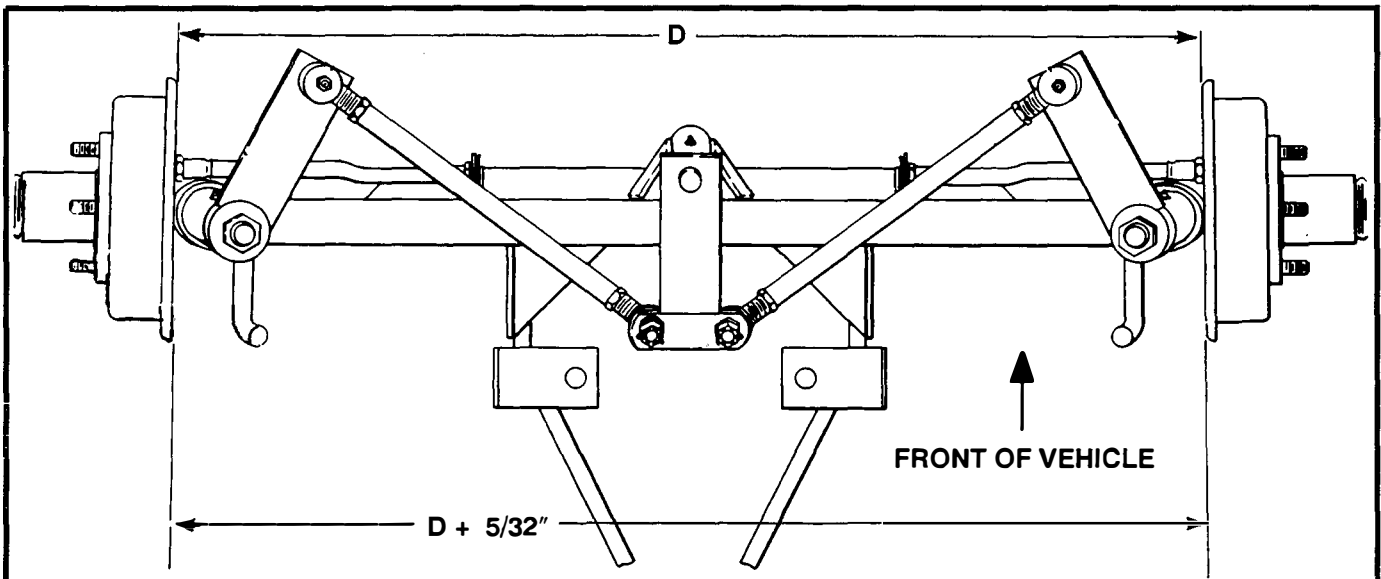

Figure 15.
4. Measure the distance between the brake backing plates at both the rear and front of the plates. If these two measurements are the same, the front end will have zero toe-in. See Figure 15.
5. Adjust the tie rods as necessary to obtain a distance of $5/32$ " (3.97 mm) less at the front of the brake backing plate than at the rear. This adjustment sets the front end at one degree toe-in. The toe-in must never exceed one degree. See Figure 15.